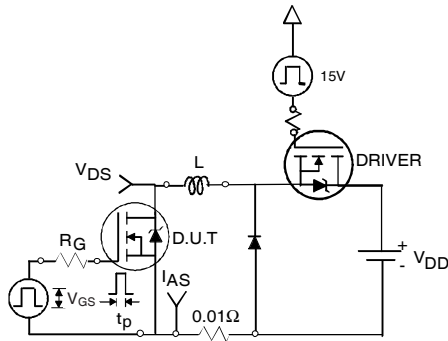

Fig 12a. Unclamped Inductive Test Circuit
- ③ Pulse width $\leq 1.0ms$; duty cycle $\leq 2\%$.
- ④ $C_{oss\text{ eff.}}$ is a fixed capacitance that gives the same charging time as C_{oss} while V_{DS} is rising from 0 to 80% V_{DSS} .
- ⑤ Limited by T_{Jmax} , see Fig.12a, 12b, 15, 16 for typical repetitive avalanche performance.
- ⑥ This is applied to D²Pak, when mounted on 1" square PCB (FR-4 or G-10 Material). For recommended footprint and soldering techniques refer to application note #AN-994.
- ⑦ R_G is measured at T_J of approximately 90°C .
3. Equation below based on circuit and waveforms shown in Figures 12a, 12b.